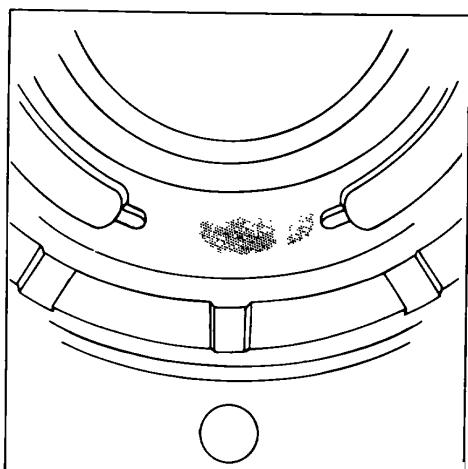

Figure 221.
20. Inspect the motor cover (4) bronze face for signs of cavitation, excessive wear, contamination or other damage. See Fig 221. If circular wear patterns cannot be felt with a fingernail and if there are no nicks, scratches or other damage, one or two passes across 500 grit emery paper on a lap table, will put the bronze face in like-new condition.